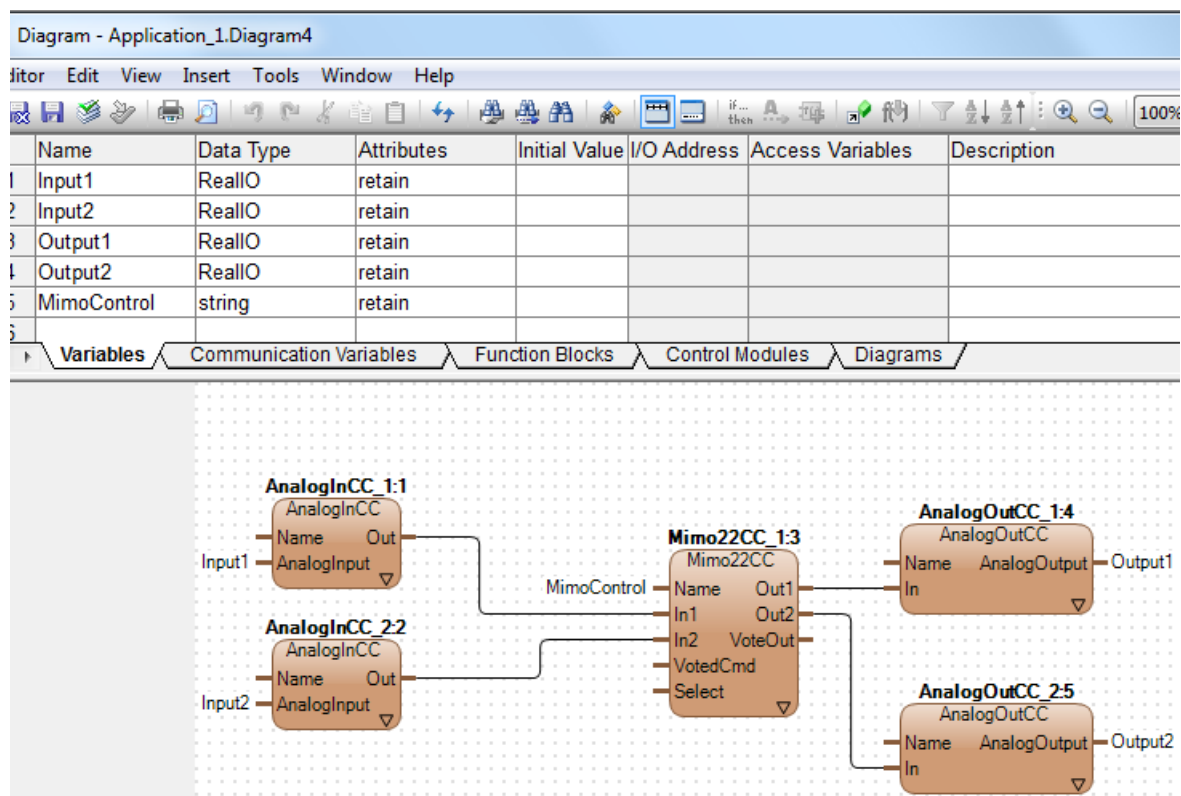

Figure 67. Mimo22CC connected in diagram editor
11. Connect the control modules correctly. Figure 67 shows the completed connection for the MIMO22CC object in the diagram editor.